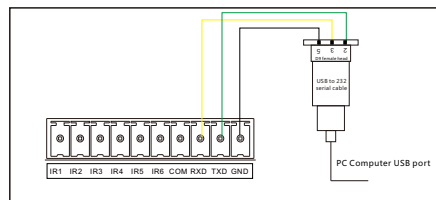

Figure 8. Infrared library download wiring
- Infrared library project download: RXD TXD GND, specific settings see the infrared module debugging manual (see Figure 8)